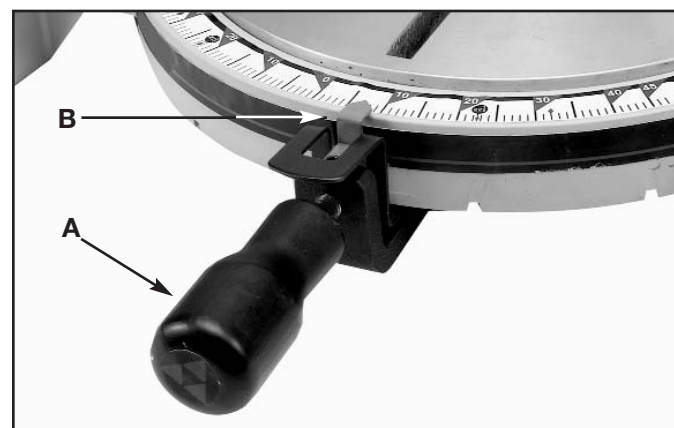

Fig. 4
2. Rotate table to the left until index stop engages with the 90 degree positive stop (B) Fig. 4. Tighten table lock handle (A).